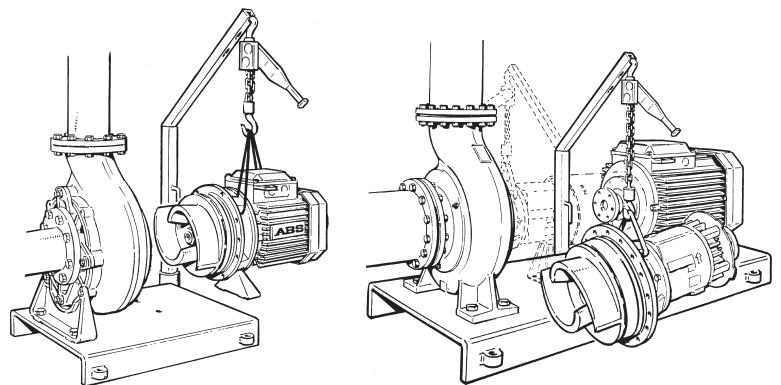

Fig. 3a Close-coupled and 3b Bearing Assembly
3. Remove the rotor unit safely, e.g. by using the ABS Lifting Arm. The socket for the lifting arm can be fastened to the floor. Place the lifting arm in the socket and lift the rotor unit as in Fig. 3a.